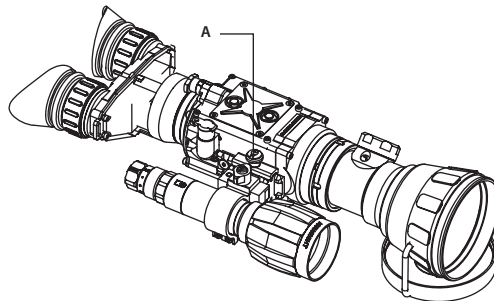

FIGURE 3-8. XLR-IR850 ILLUMINATOR INSTALLATION
3. With the nut of riser (Figure 3-8, A) loosened, install the illuminator on the Weaver rail so that the recoil stop of riser slides into one of the transverse slots of the rail.
4. Tighten the nut of riser (A).